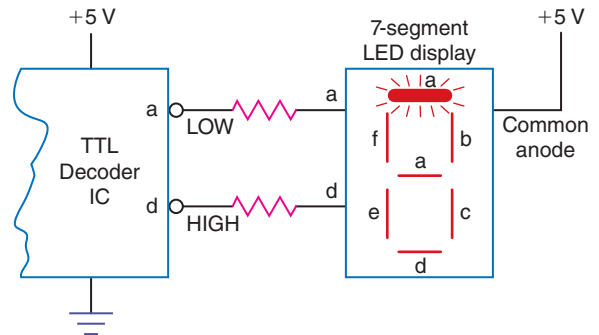

Fig. 5-20 TTL decoder IC driving common-anode seven-segment LED display.
43. Refer to Fig. 5-20. The TTL decoder IC has _____ (active HIGH, active LOW) outputs.
44. Refer to Fig. 5-20. The TTL decoder IC is said to be _____ (sinking current,
45. Refer to Fig. 5-20. Segment *d* on the display is not glowing because it takes a _____ (HIGH, LOW) logic level at output *d* of the IC to light the LED.